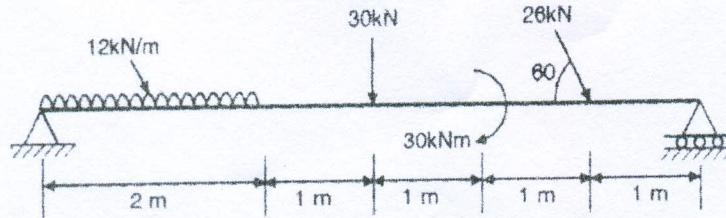

Fig:10, Q.5 (A) & Q.5 (B) OR
- Q.5** [A] Find support reaction for the beam shown in Fig.10 [05]
[B] Draw Shear force and bending moment diagram for the beam shown in Fig.10. [05]